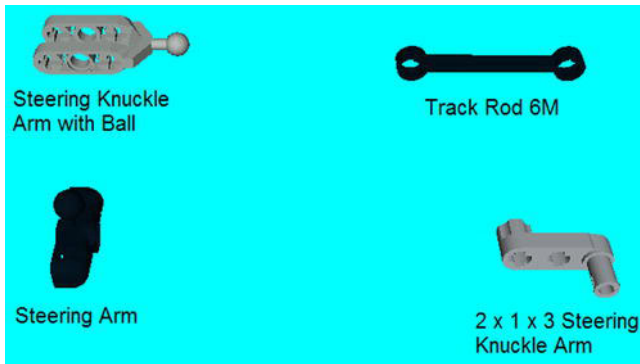

Figure 1-11. Technic pieces used for steering
I don't really know how to classify the steering pieces (see Figure 1-11), but they come into play in Chapter 3. You will need them if you want to build a car with some suspension.
- **Link:** A good example of a piece like this would be the track rod shown in Figure 1-11.
- **Steering:** These parts are shown in Figure 1-11.